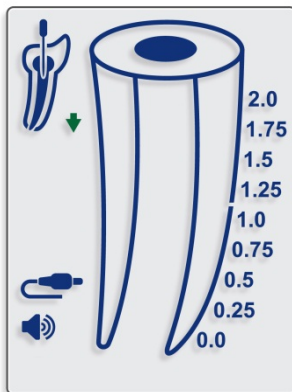
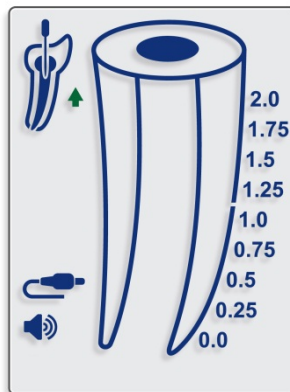

Fig. 5
Fig. 6
7.4.10. Movement of the file inside the canal is reflected by the DOWN (Fig. 5) and UP (Fig. 6) arrows on the screen.